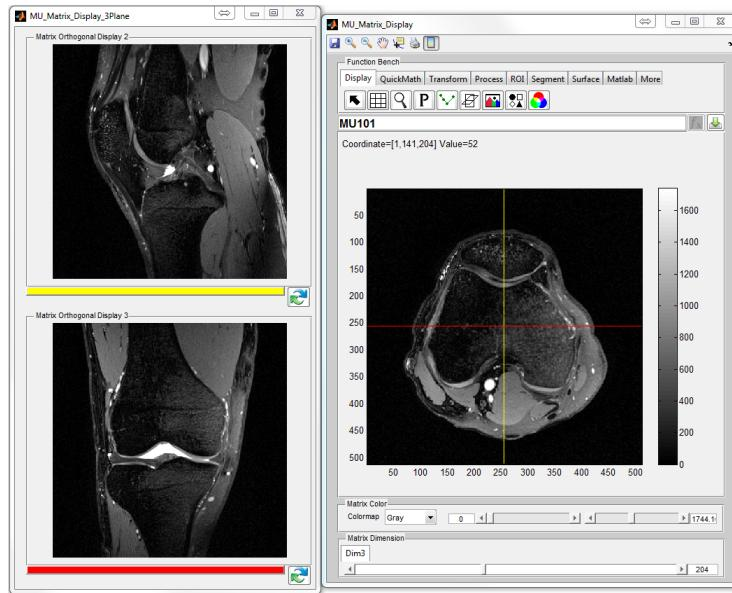

Figure 6.9: 3D Slicer. To change view slice, the user needs to activate localizer line and then click on wanted coordinate on the main display window.
- : Open a separate window for another two orthogonal matrix display axes (Figure 6.9). The operation buttons on the second window consists of